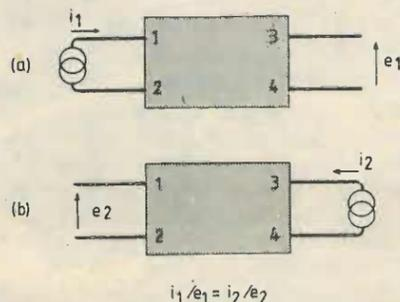

Fig. 1. Four-port network is reciprocal if its transfer admittance is the same in both directions.
**Fig. 1.** This l.f. trench transmitter operated into an aerial only a metre above ground, but others worked from aerals inside the trench. (20watt Mk 3 transmitter, 1917, has single-valve tuned-anode oscillator, but a second valve could be switched in parallel for maximum power. HT supplied by 1,000-volt battery or induction coil.)
Two reversible electroacoustic transducers coupled to the same medium and accessible only through the two pairs of electrical terminals form a four-pole network. A general proof of the validity of the law has not been given for this case, to my knowledge, but it has been proven for special cases. Furthermore, in practice it is easy to check that a particular network is reciprocal, as described, and for this reason the validity is assumed. It is further assumed that the principle applies to individual transducers. Consider Fig. 1(a), which shows a current  $i_1$  flowing into terminals 1 & 2 of a network causing an open-circuit voltage  $e_1$  to appear across terminals 3 & 4. In (b) the connections are reversed, and an input current  $i_2$  at terminals 3 & 4 causes an open-circuit output voltage  $e_2$  at terminals 1 & 2. Reciprocity may be stated as